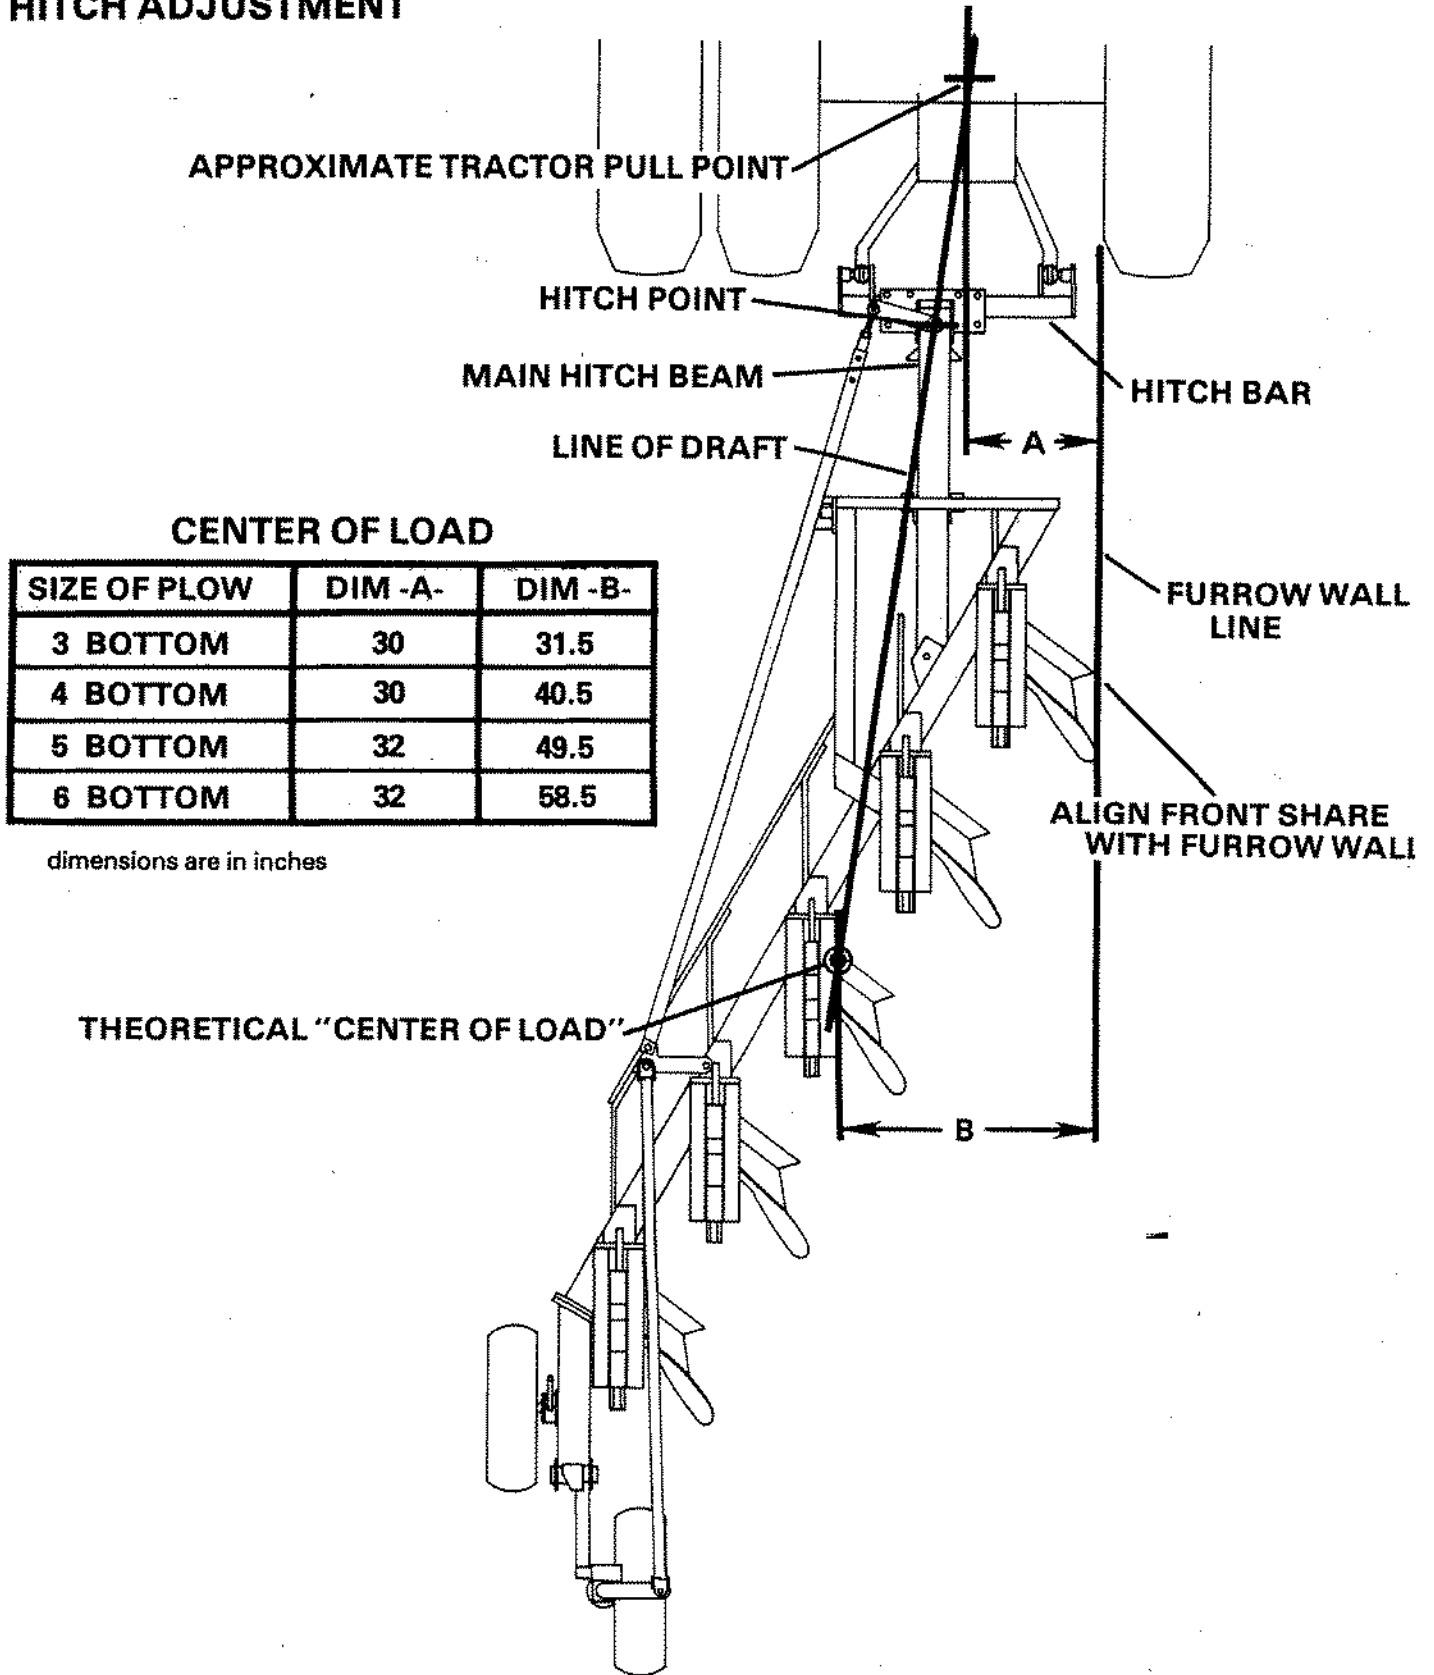

FIG. 2
For best operation of an in-furrow plow, the PULL POINT of the tractor must be properly attached to the CENTER OF LOAD of the plow. As shown in the drawing (Fig. 2), the LINE OF DRAFT starts at the tractor PULL POINT and extends to the CENTER OF LOAD of the plow. The PULL POINT of most two wheel drive tractors is located on the tractor center line just ahead of the rear axle. (Refer to your tractor operators manual for the exact location).
The CENTER OF LOAD is a theoretical point on the front edge of the moldboard share. It is measured from the edge of the furrow wall to the front edge of the appropriate bottom. These points have been predetermined, see center of load table (See Fig. 2).
1. Draw a straight line on the floor or ground to represent the furrow. (See Fig. 2)